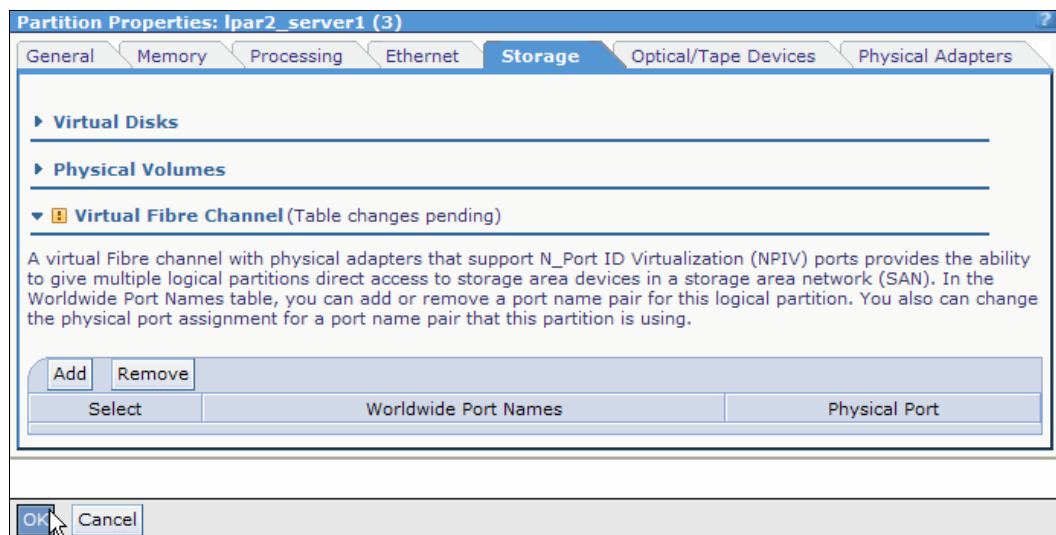

Figure 4-104 Applying changes to the LPAR configuration
5. The window in Figure 4-104 is displayed. There is an exclamation mark near the Virtual Fibre Channel menu; this means that the configuration change is pending. Click **OK** to apply the changes.